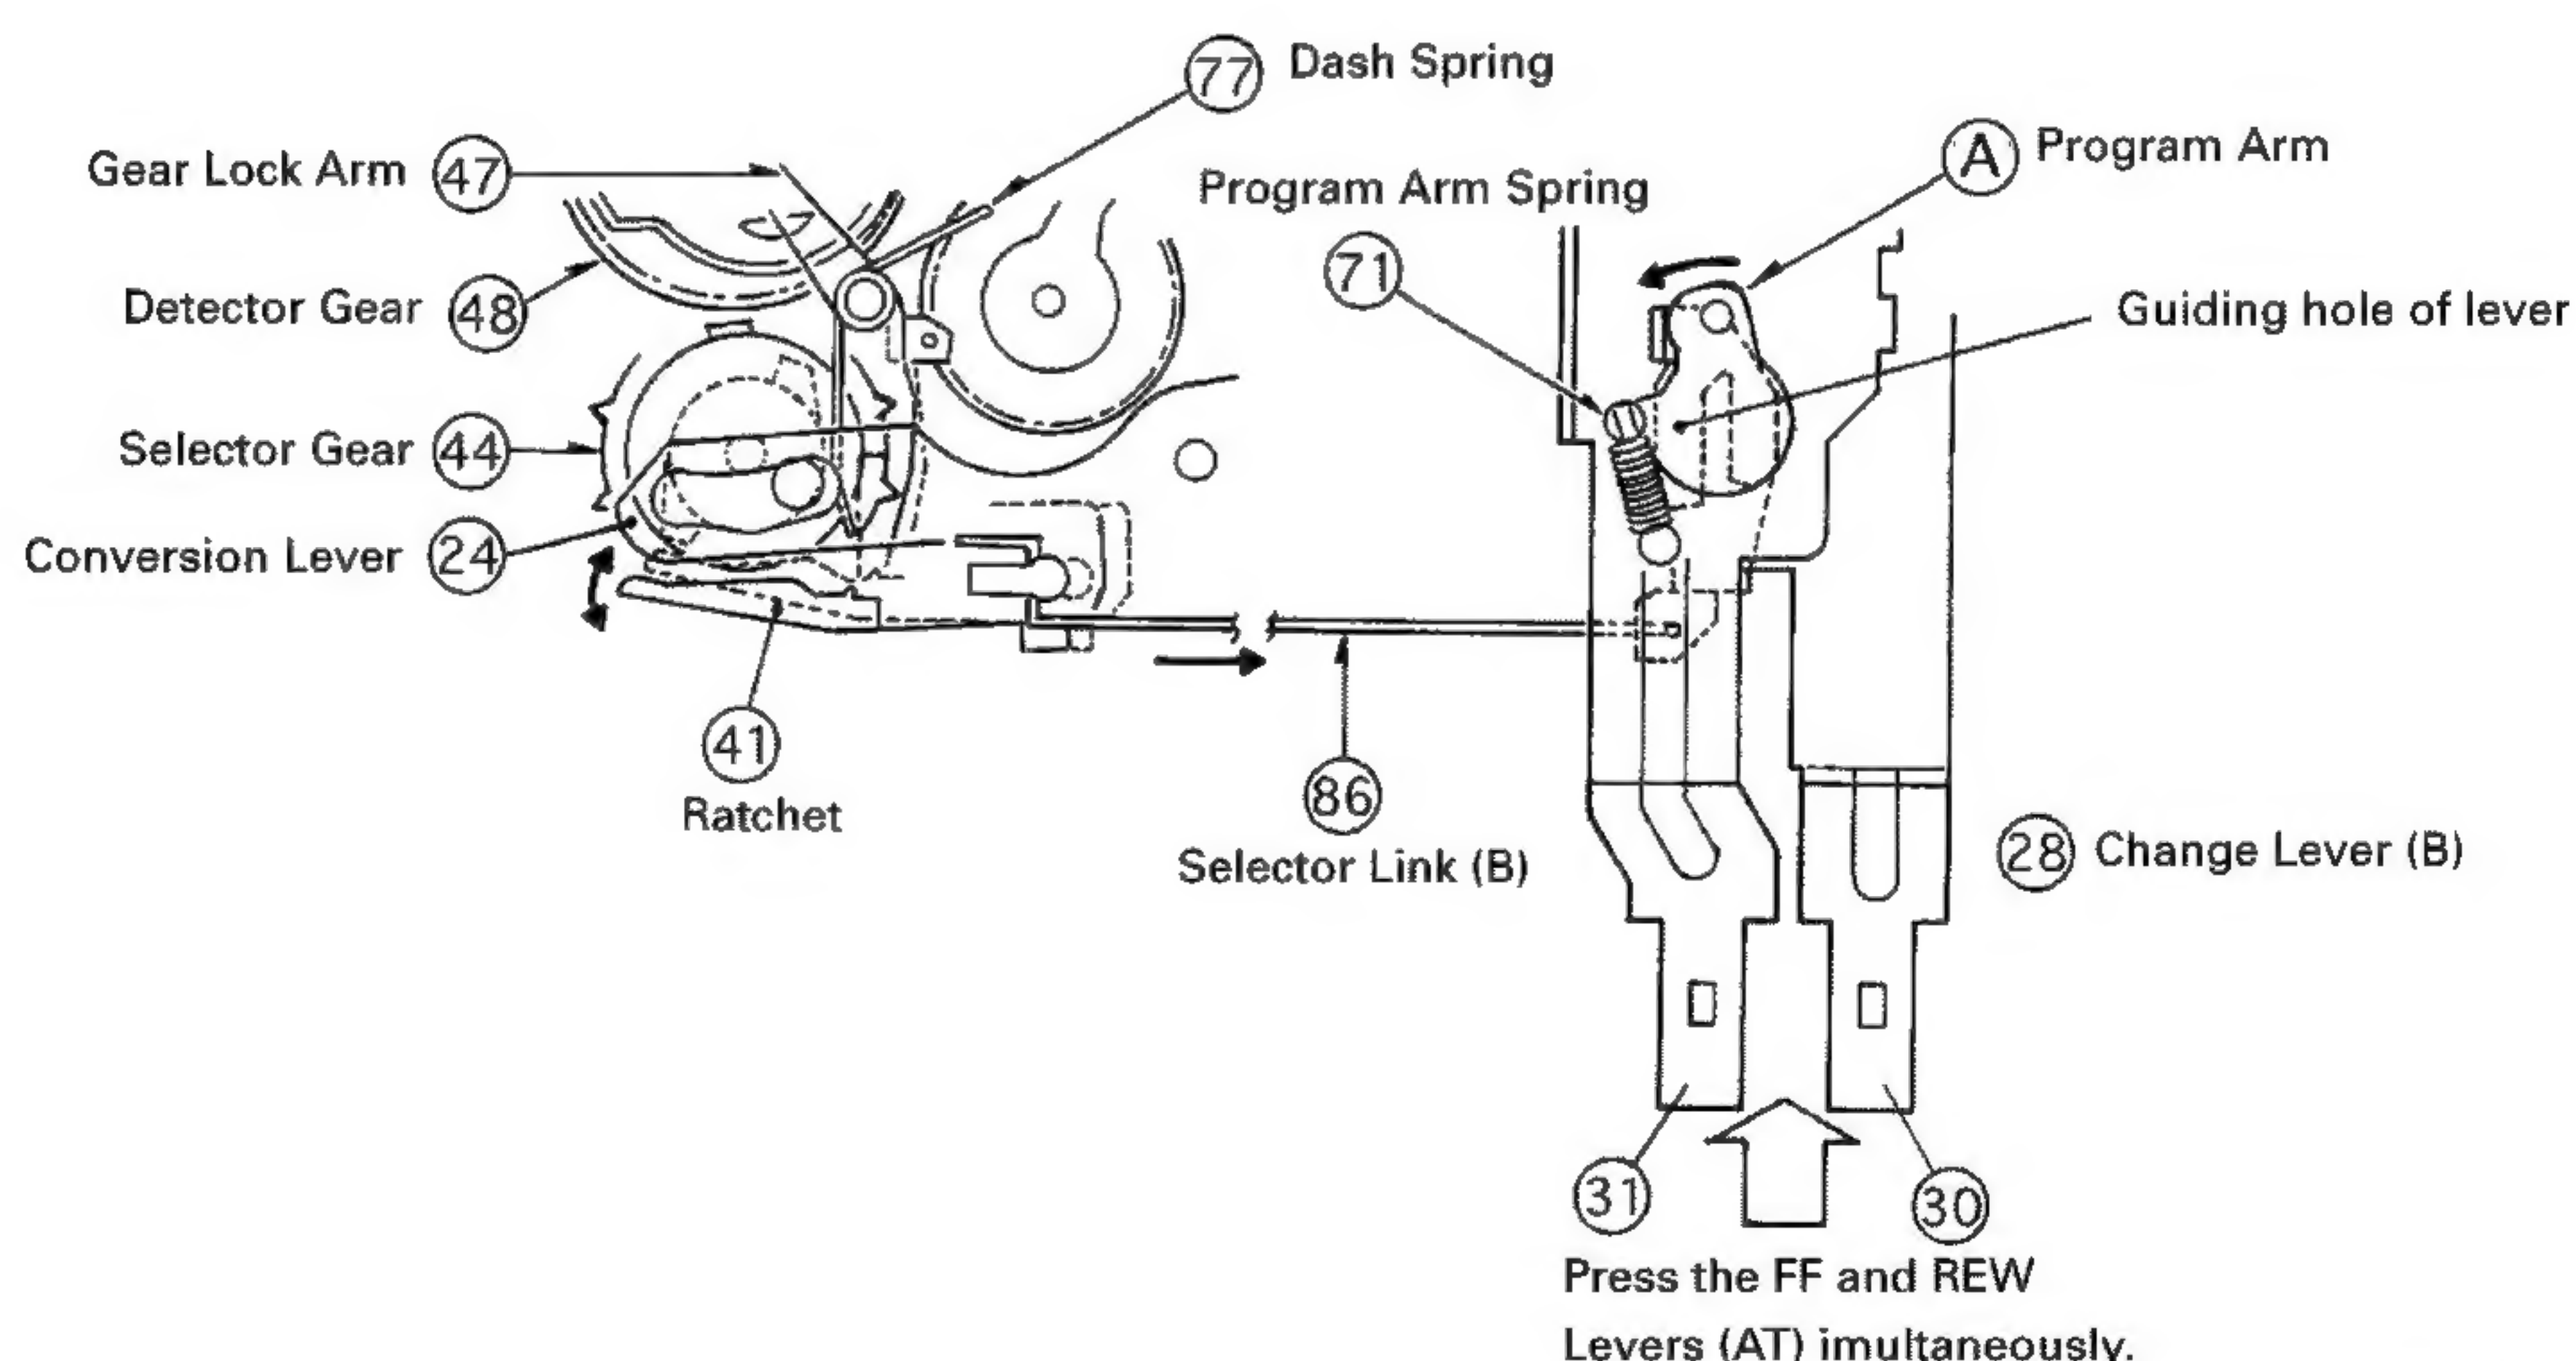

Fig. 6
- (1) Pressing the FF and REW Lever (AT) (30 and 31) simultaneously moves the Program Arm (A) in the direction shown by the arrow, by the pressure of the Program Arm Spring (71). (Fig.6)
- (2) The Program Arm (A) is then moved further by the guiding hole of the lever.
- (3) The movement of the Program Arm (A) is conveyed to the Change Lever (B) (28), Selector Link (B) (86), Ratchet (41) and then Gear Lock Arm (47).
- (4) The Gear Lock Arm (47) is unlocked. The Dash Spring (77) causes the Selector Gear (44) to rush and engage with the Detector Gear (48). The Selector Gear (44) rotates.
- (5) The projecting portion of the cam of the Selector Gear (44) taps the Ratchet (41). The Gear Lock Arm (47) is released from the Ratchet (41), returns to the given position, and locks the Selector Gear (44).
- (6) Due to the Lock of the Gear Lock Arm (47), the Selector Gear (44) rotates by 180 degrees and stops.
- (7) By a half rotation (180 degrees) of the Selector Gear (44), the Conversion Lever (24) and the FR Changing Arm Assy (4) moves.
- (8) The Pinch Arm (F) Assy (PS) and (R) Assy (PS) (14 and 13) and the Slide Switch (SW3) (100) are switched by the FR Changing Arm Assy (4). At the same time, the Head (HD1) (98) is moved upward and downward by the linked Adjuster Link (X) (46). The TU Gear Arm Assy (49) is switched by the FR Arm (A) Assy (10) and FF Arm (42) to change the direction of rotation (FWD and REV) of the Reel Spindle Assy (D) (15).